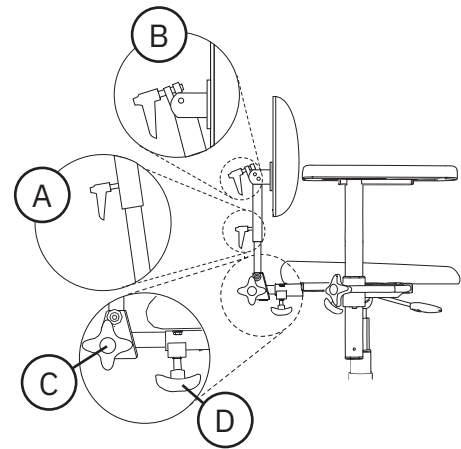

Figure 5.9. Medic backrest mechanism.
Medic can be adjusted in height (A), angle of back rest (B, angle of back rest mechanism (C) and depth (D), see Figure 5.9. The back recliner can be adjusted in the range of 15° forward to 45° backwards.